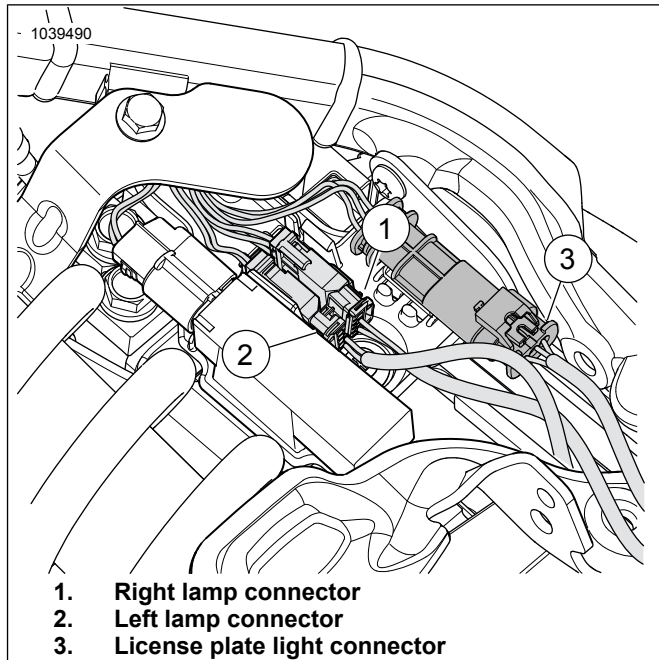

Figure 4. Turn Signal Lamp Connector
3. See Figure 4. Connect connector (3).